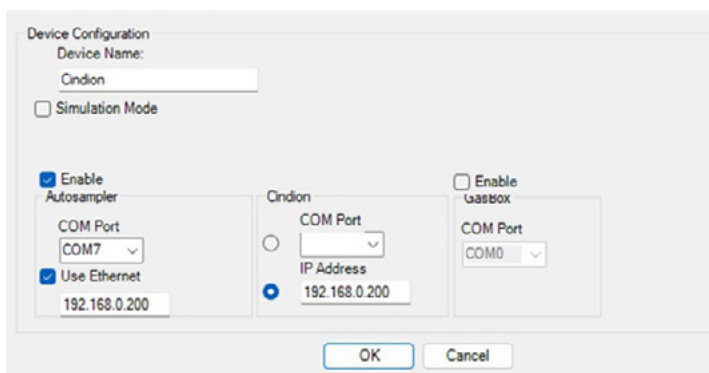

Figure 5. IP and COM addresses for Cindion C-IC system configuration
- Right-click on the DDK Cindion icon. The communication channels will be displayed (Figure 5). By default, the Cindion C-IC autosampler, oven, and absorber communicate through the IP addresses. Record your IP addresses for historical reference. In the case where IP addresses can't be used, the configuration can be set to communicate through com ports. The Chromeleon Instrument Configuration is the same for the solids tray and the liquids tray.